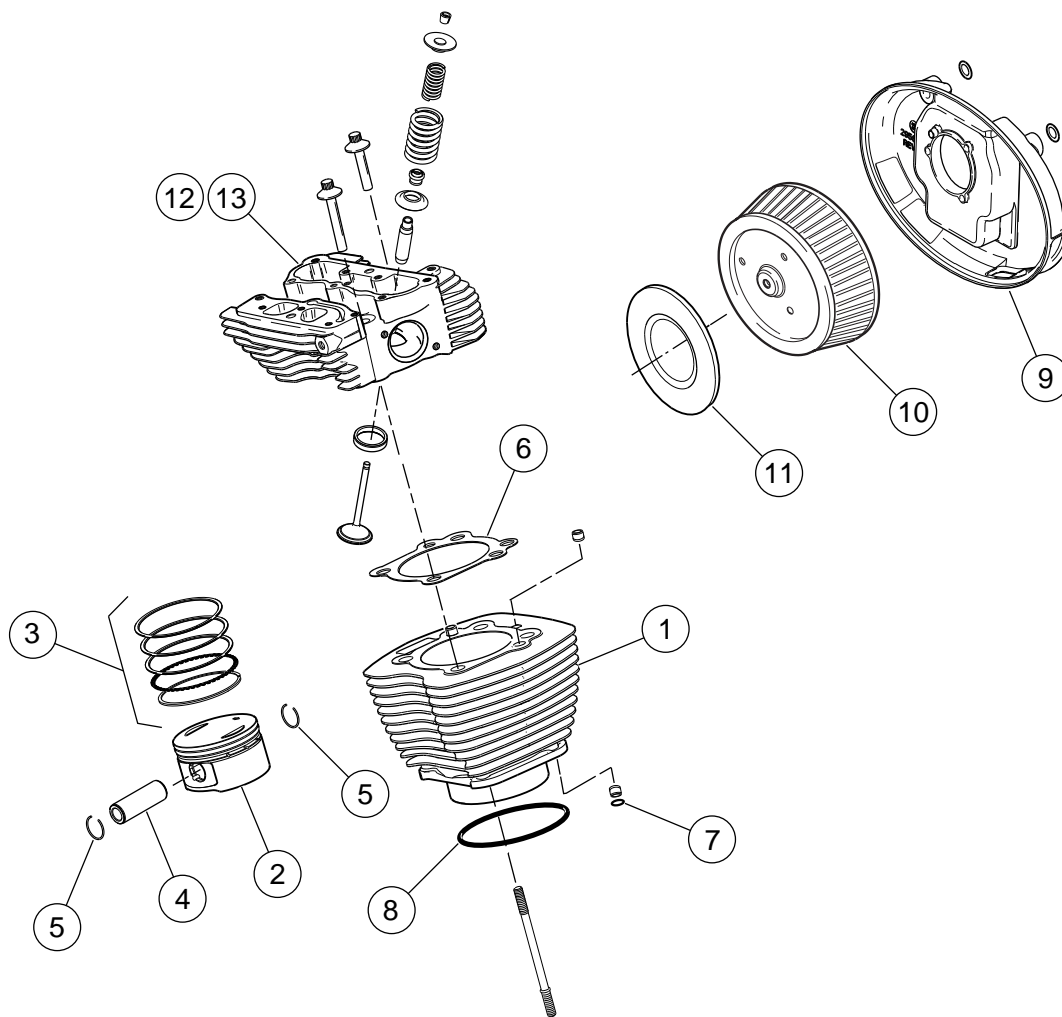

Figure 8. Service Parts: Screamin' Eagle Twin Cam 103 (1690 CC) Conversion Kit
2. See Figure 8. Install air cleaner assembly using backplate (9) and air cleaner cover insert (10) from kit. Refer to AIR CLEANER INSTALLATION in Service Manual.